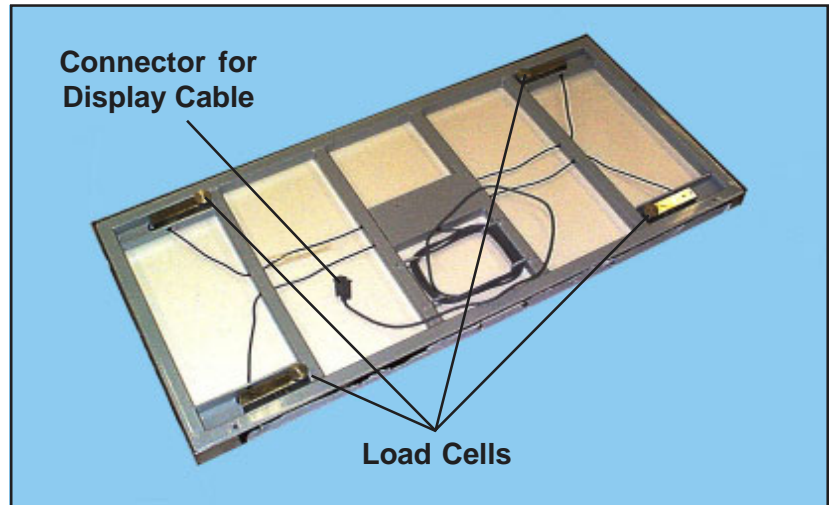

Figure 51. Underside of Electronic Scale
4. With a flat-blade screwdriver, remove the four mounting screws and washers that hold the load cells to the table arms (Figure 51).
1. Place the scale on the unit so that the load cells under the scale line up with the mounting holes on the unit frame (Figures 51, 52, and 53). Make sure that all four load cells rest on the frame arms and that the scale is stable and does not rock. **Note:** The display cable should exit to the rear for convenient routing to the display console.